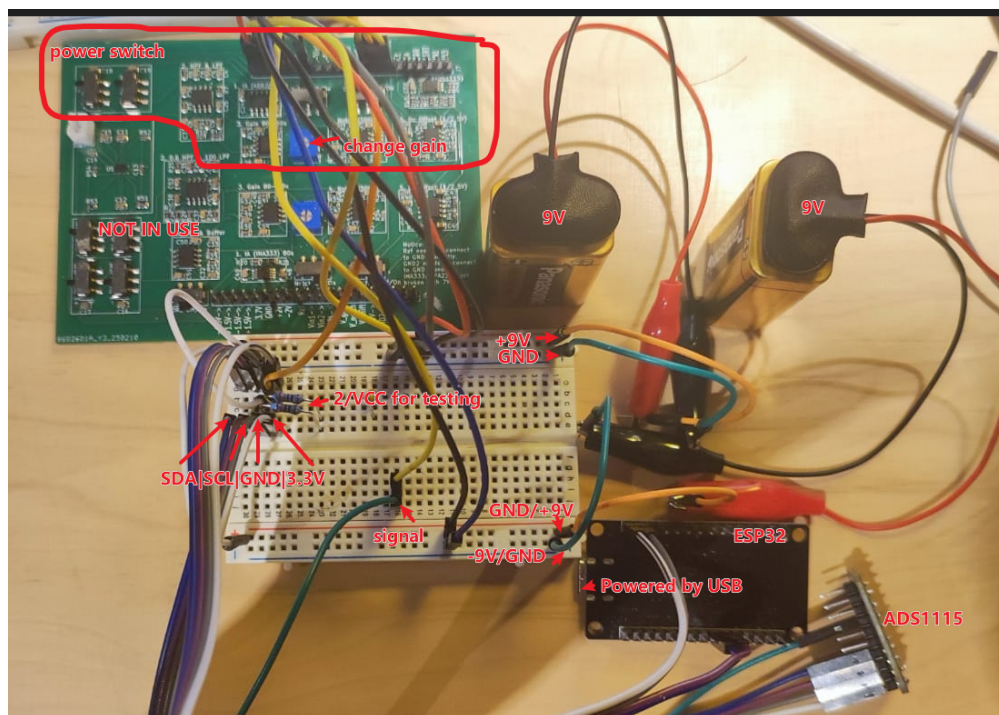

Figure 1: Default setup configure for the SCD. The power are two 9V battery.
1. **Single Channel EEG Device (SCD)** (fig 1): This is an early prototype. Although it has two channels, only the upper one is in use. It uses AD620 and TL072 and is powered by $\hat{A}2.5V$ to $\hat{A}9V$. The adjustable potentiometer provides a gain from 7,500 to 4,500 V/V. Since AD620 is less sensitive to electrode quality, this device is more suitable for technical verification.
As shown in Figure 1, the SCD is powered by two 9V batteries. The output signal ("V_shift") connects to the ADS1115 peripheral, with SDA and SCL lines connected to an ESP32 development board.
3. Turn on the device. For SCD, connect two 9V batteries as in Figure 1. Switch on the toggles labeled "+9V" and "-9V" (top left corner). The toggles labeled "notch" and "dc" should remain OFF (they are mislabeled and actually mean ON). Connect signal electrode, reference electrode and GND electrode to Vin1, Vin2 and GND.